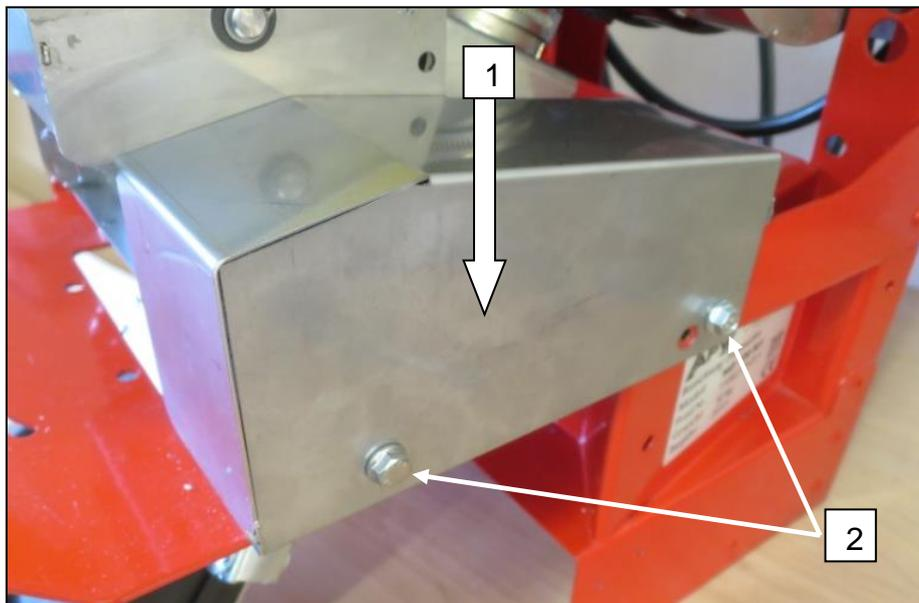

Fig.: 85
- To install the seeding shaft motor cover, insert from top to bottom **1** over the seeding shaft motor and fix it with the existing bolts **2** (Fig.: 85).